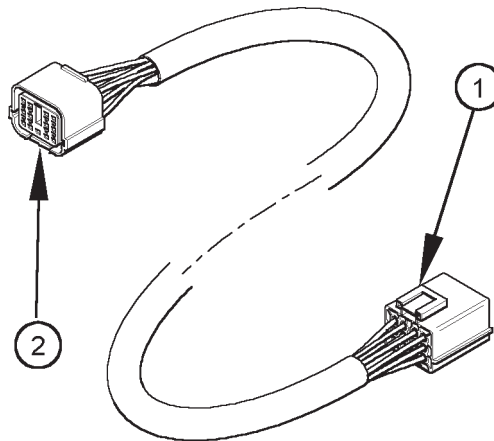

Figure 10 - Interconnecting cable
Interconnecting cables (Figure 10) are used to join the engine loom to the instrument panel(s). Cables are made in 4, 6, 8, 10 and 12m lengths and all cables have a male plug (1) at one end and a female (2) at the other. Cables may be plugged together to give up to 12m length, but in general if a longer cable is required it should be ordered as a special item, to be made in one piece.